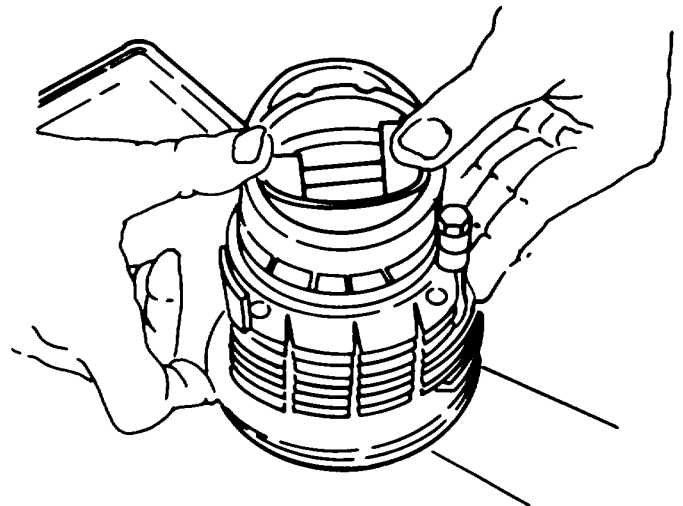
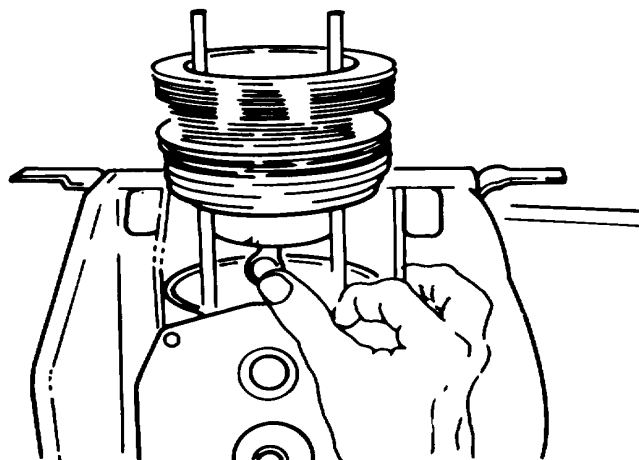

Figure A-42. Piston
Figure A-43. Piston and Cylinder
g. Piston. Fit the piston ring compressor to the piston. Lay the cylinder down on the bench so the bottom of the cylinder is facing up. Install the piston from the bottom of the cylinder. Never tap on the top of the piston. Do not push the piston in so far that the piston pin bore is covered. (Figure A-42.)
- (1) Slide the piston and cylinder over the studs, making sure the crescent shaped grooves in the cylinder fins face the governor side of the engine. Align the piston and connecting rod bores. Push the wrist pin into the piston and through the connecting rod. Replace the wrist pin retaining ring using a snap ring pliers.
- (2) Slide the cylinder down until it seats firmly on the engine block. On 18A430 engines only, install a new copper cylinder head gasket. Slide the cylinder head down onto the cylinder. Replace the flat washers and flange nuts on the studs. (Figure A-43.)